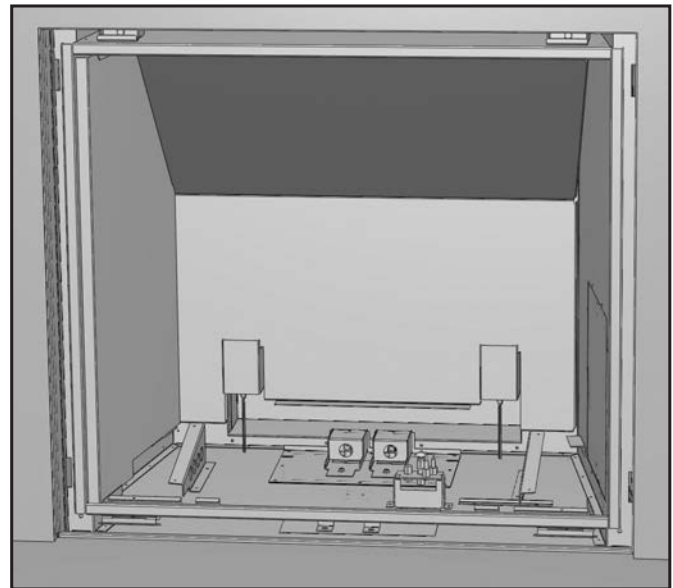

Figure 36: Top Porcelain Panel in Place.
5. Install the Top Panel by placing it on top of the Rear Panel and behind the Left Panel (see Figure 36). Hold it with one hand or have someone else hold it for you while you place the last panel. **WARNING:** If this panel falls from this location it will possibly break or the paint work will become chipped.